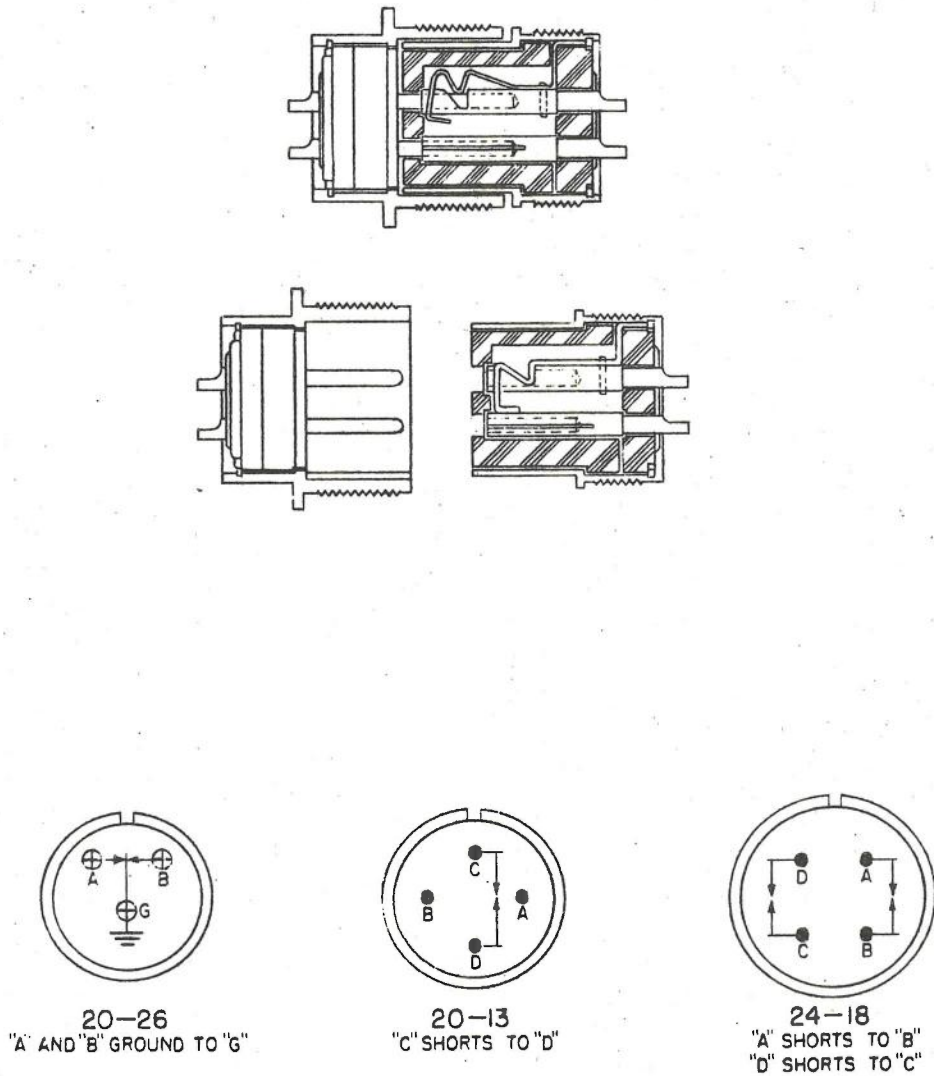

Figure 5-44. Automatic Grounding and Short-Circuiting Connectors
c. **AUTOMATIC GROUNDING AND SHORT-CIRCUITING CONNECTORS.** - The contacts in these connectors automatically ground or short circuit as shown in Figure 5-44. Special cam-operated grounding springs are placed in female inserts which are similar in all other respects to the standard "AN" socket or female insert.